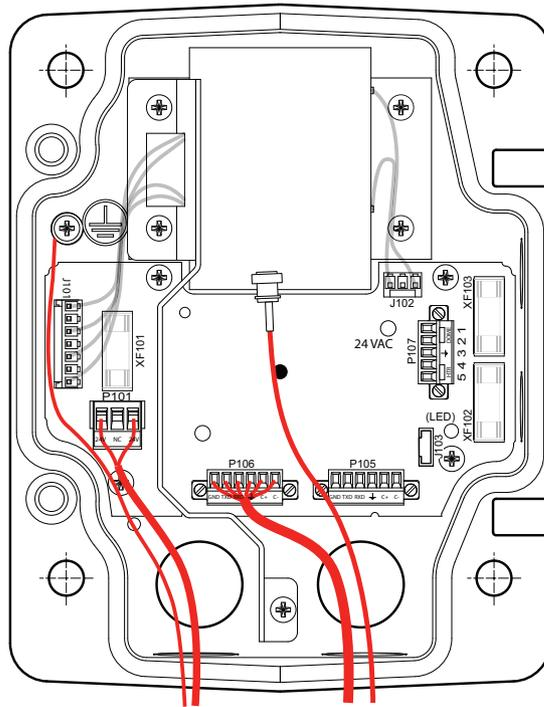

Figure 2.3 Pendant Arm Power Supply Box
3. Cut and trim all wires with sufficient slack to reach their connector terminals in the box, but not so long as to be pinched by or to obstruct closing the Pendant Arm. Refer to *Figure 2.3, Page 13*, above, for the connector locations.